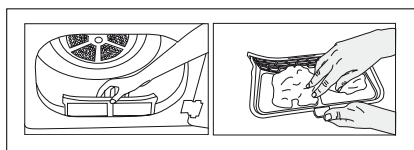

Figure 2
- 2.b) If the product's lint filter is as shown in Figure 2, remove the filter by pulling it up.